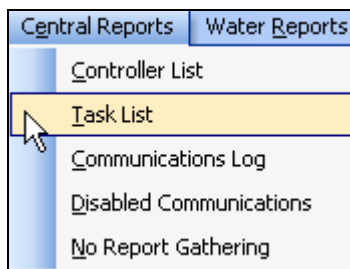

Figure 23.0.1
1. From the toolbar at the top of the screen select **Central Reports** then scroll down to **Task List** and click on it (Figure 23.0.1).
The following is a list of every item on the **Task List** Report (Figure 23.0.1).